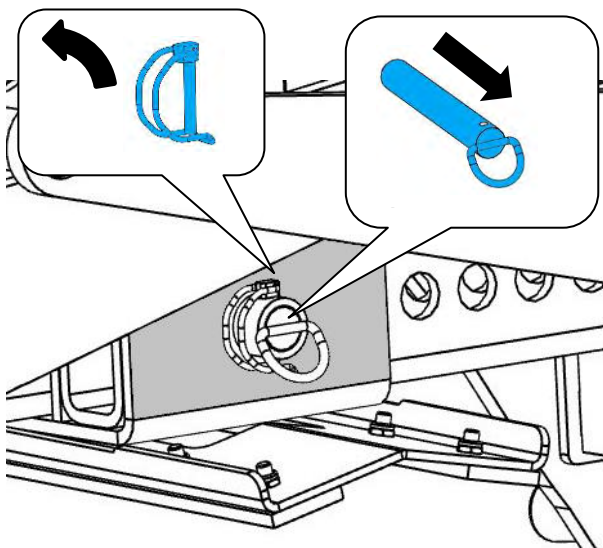

Fig. 2
2. Remove the hinged cotter pin (1) from the lower part (Fig. 2).
3. Pull out the plug-in bolt (2) (fig. 2)